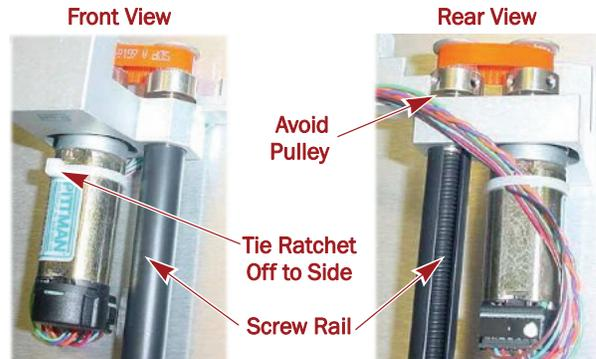

Figure 16. Cable Tie and Cable Positions on Drive Motor
4. Install **new cable tie** to secure the cables to the motor (Figure 16) observing these points: